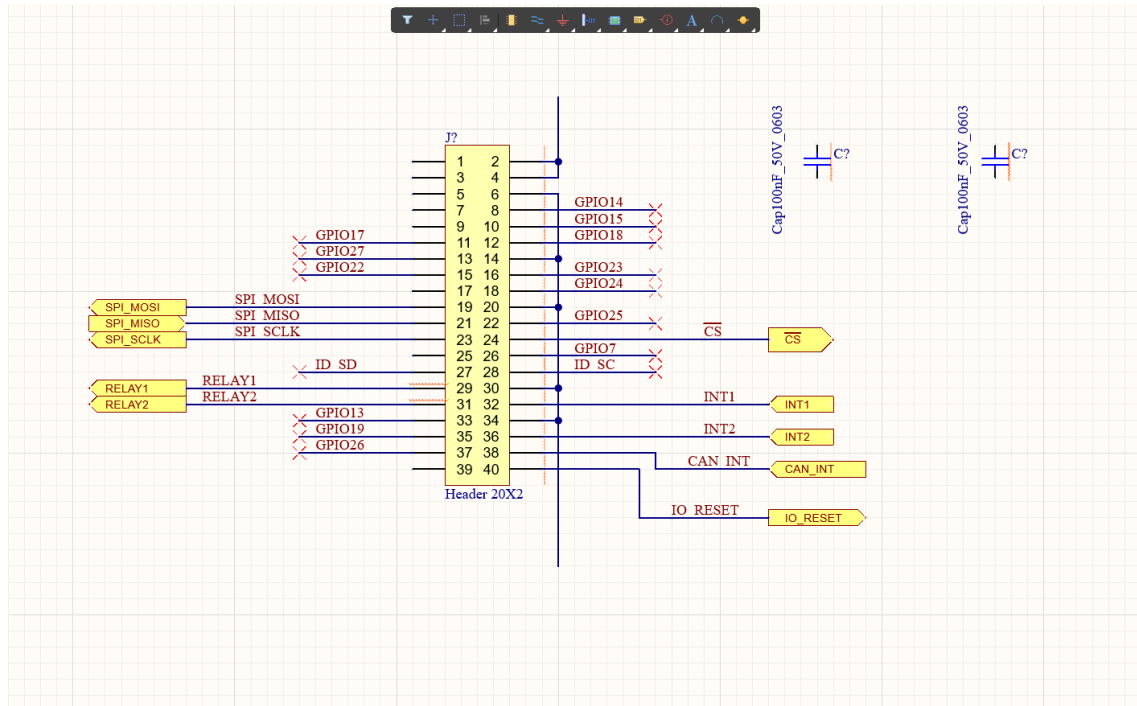

Figure 7. Processor Interface
14. From the project Module 09 Making the Connection – [Your Name], open the Processor_Interface.SchDoc. It contains a partially completed schematic as shown in Figure 7, in this exercise you will complete the remaining connections on this schematic by adding wires and net labels, as well as signal and power ports.